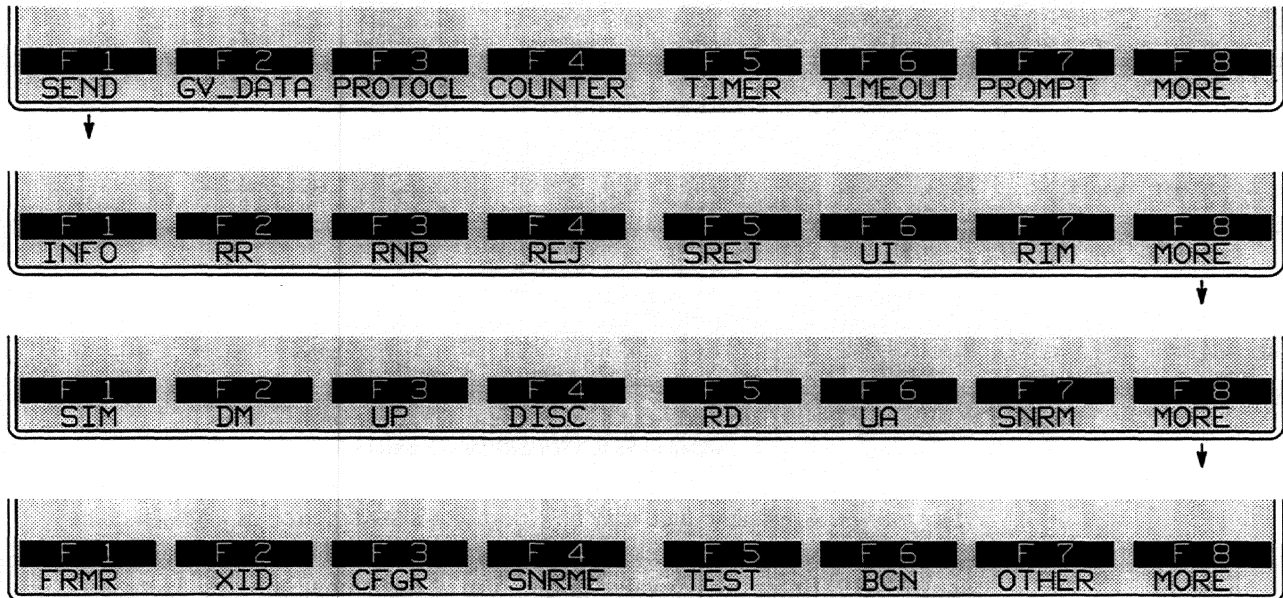

Figure 39-19 SEND actions always specify a frame type.
Press the softkey for SEND to access three racks of softkeys with names of frame types that may be named in SEND actions. All data generated by the SDLC package must be enclosed in a frame that is identified in a SEND action by *type*. (Only at Layer 1 can data be generated as a simple character string without any protocol building blocks.) The complete set of frame types is given in Figure 39-19.
4. *Other frames.* Any frame type may be entered in a SEND action as a hexadecimal value instead of by name. Press the softkey for OTHER, on the bottom rack in Figure 39-19. Enter the hex value in the form of two alphanumerics. Here is a DISconnect command entered as a SEND OTHER action: